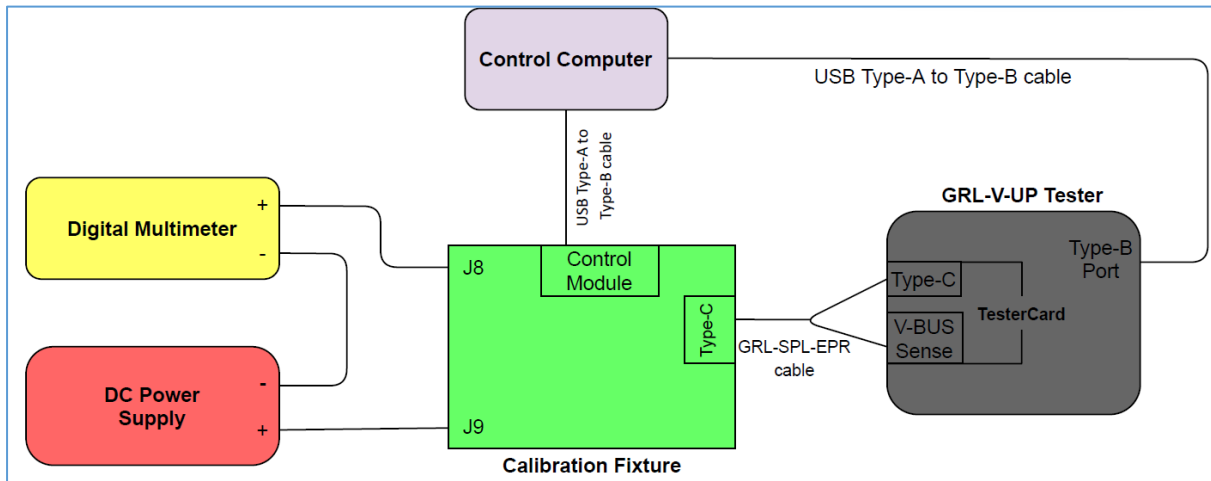

FIGURE 4.9: CONNECTION SETUP FOR GRL-V-UP MANUAL PORT VERIFICATION FOR CURRENT MEASUREMENTS
This section describes the connection diagram to set up the equipment and fixture for manual port verification for current measurements. Set up the hardware connection as shown in Figure 4.9 below.
1. Set up the hardware connection as shown in Figure 4.9.